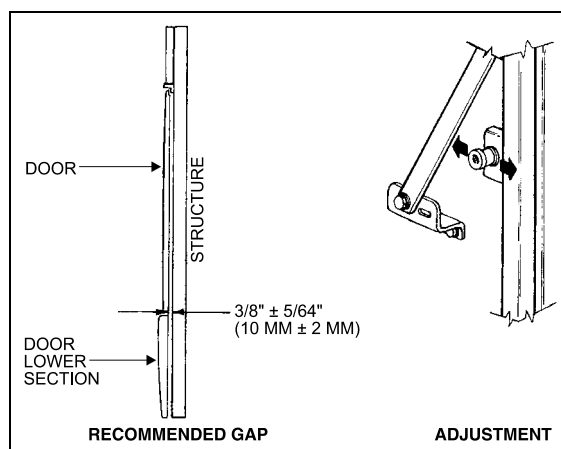

FIGURE 52: BAGGAGE COMPARTMENT DOOR 18070
7. With door shut, it should have a gap of $3/8'' \pm 5/64''$ (10mm \pm 2mm) between door panel lip (at level of upper edge of lower section) and structural post. If not, move pins horizontally until correct gap is obtained. Fully tighten the pins after adjustment is achieved (Fig. 52).